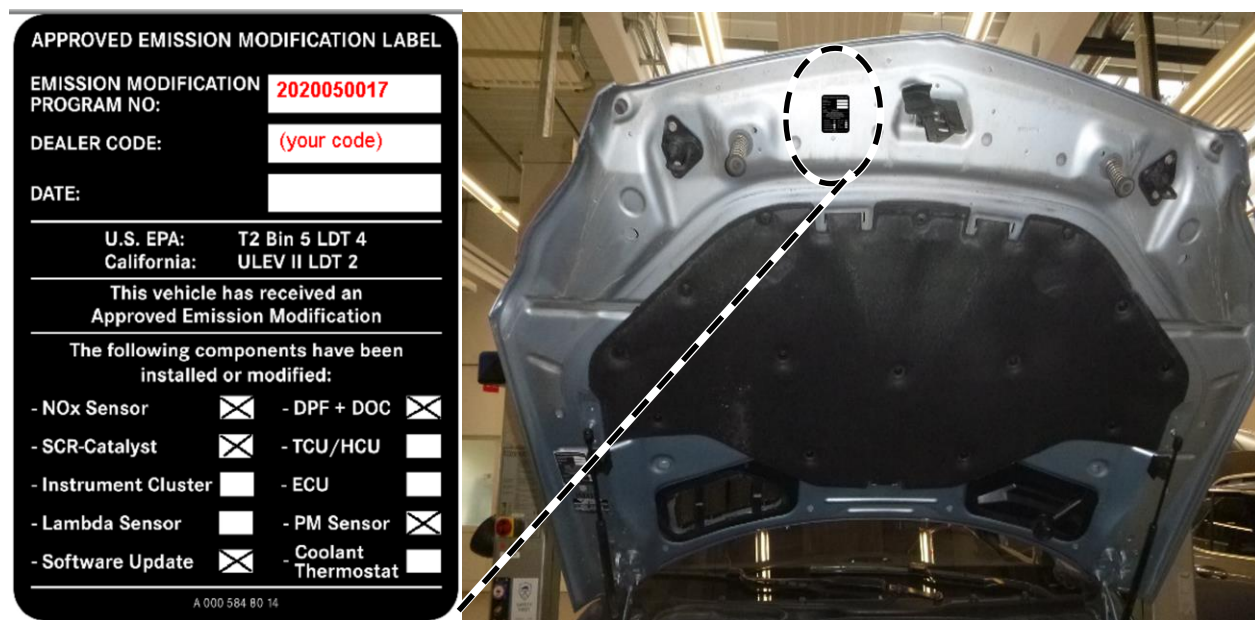

Figure 9
10. Clean the bonding surface of the hood and attach the adhesive label (**Figure 9**).